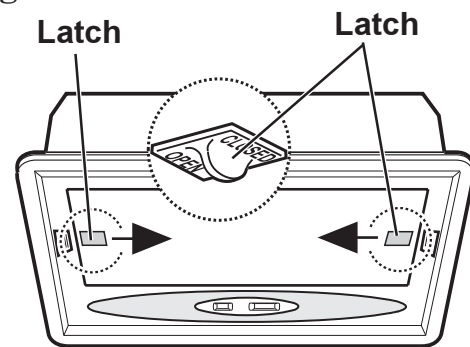

Fig. 5 - EFG 535
- Open the latches and swing the grille downwards. Fig. 5.